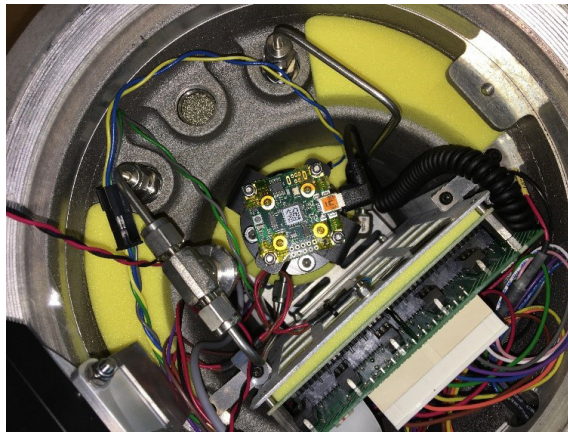

Figure 43 *Camera Sensor In-line Connector*
- Using a long 4mm Allen key, undo the 4 screws securing the camera assembly and lift off. If necessary, break the cell sensor connections at the in-line connector (see Figure 43, Camera sensor in-line connector). Place the assembly upside down on a flat surface to protect the window surface.